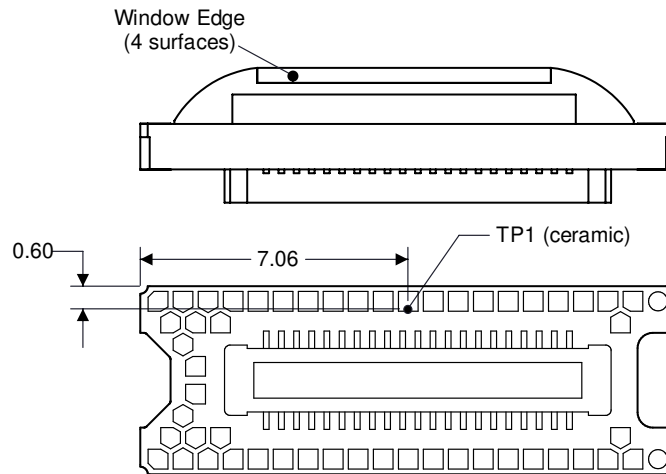

图 7-1. DMD Thermal Test Point
- T_{CERAMIC} = Measured ceramic temperature ($^{\circ}\text{C}$), TP1 location in 图 7-1
- Q_{ARRAY} = Total DMD power; electrical plus absorbed (calculated) (W)
- $Q_{\text{ELECTRICAL}}$ = Nominal DMD electrical power dissipation (W)